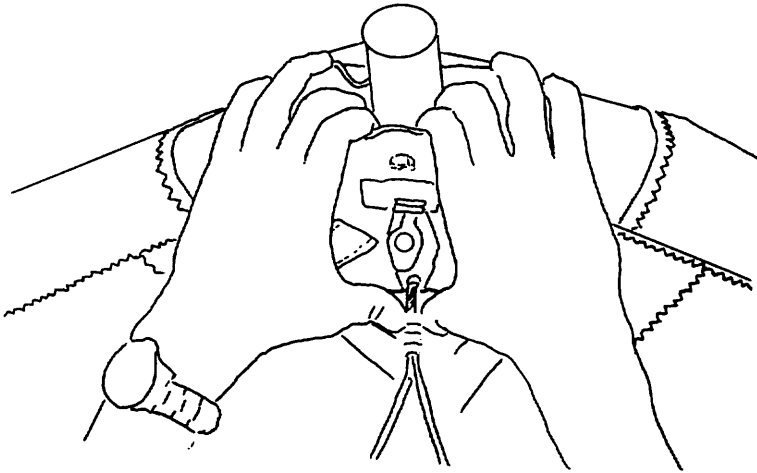

FIG 53
1) Remove the safety from the front bottom nose bolt. Place your thumbs against the "T" handle on the keyhole tang and push up on this handle while pulling down on top of the nose as shown. (Fig 53) This provides the easiest method for removing the keyhole tang from the nose bolt.